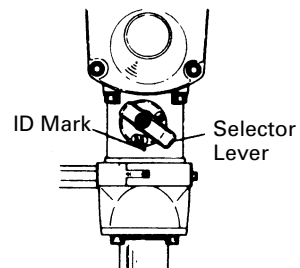

Fig. 6
3. How to select rotation-hammering and hammering. (Fig. 6)